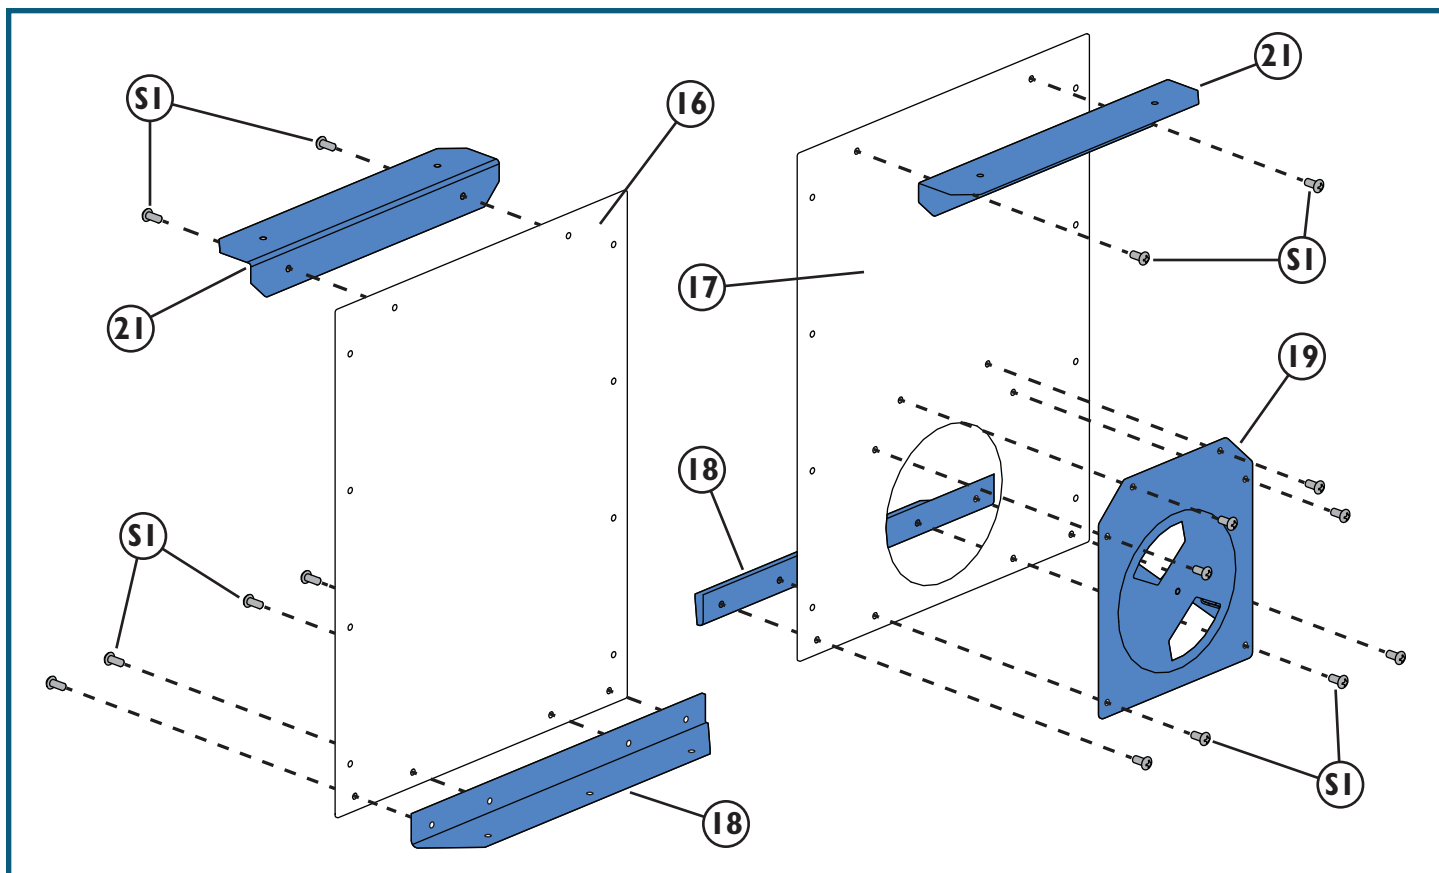

Fig. 11
1. Attach one Dust Bucket Bottom Bracket (18) to the inside face of the Dust Bucket Left Side Panel (16) with four M4 x 3/8" Pan-Head Self-Tapping Screws (S1) and the other Bottom Bracket to the inside face of the Dust
Bucket Right Side Panel (17) with two M4 x 3/8" Pan-Head Self-Tapping Screws in the two outer holes. (Two other screws will be installed in the next step.) **Fig. 11.**
2. Attach the Dust Bucket Side Vent (19) to the outside face of the Dust Bucket Right Side Panel (17) with six M4 x 3/8" Pan-Head Self-Tapping Screws (S1). **Fig. 11.**
3. Mount the Dust Bucket Top Brackets (21) to the outside faces of the Dust Bucket Left and Right Side Panels (16 and 17) with two M4 x 3/8" Pan-Head Self-Tapping Screws (S1). **Fig. 11.**